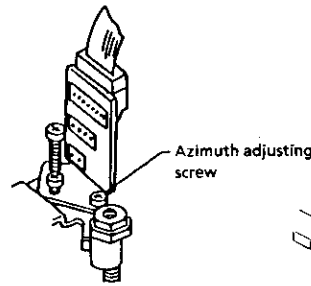

Figure 1-59.
- b) Use the alignment tape and play back its audio 6 kHz signal (monoscope pattern for video signal). Adjust the azimuth adjusting screw to obtain the maximum audio output on an oscilloscope. (See Figure 1-59.)